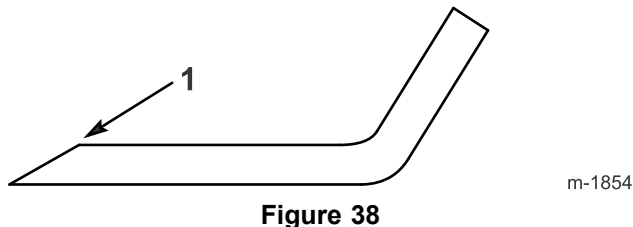

Figure 38
1. Use a file to sharpen the cutting edge at both ends of each blade (Figure 38). Maintain the original angle. The blade retains its balance if you remove the same amount of material from both cutting edges.